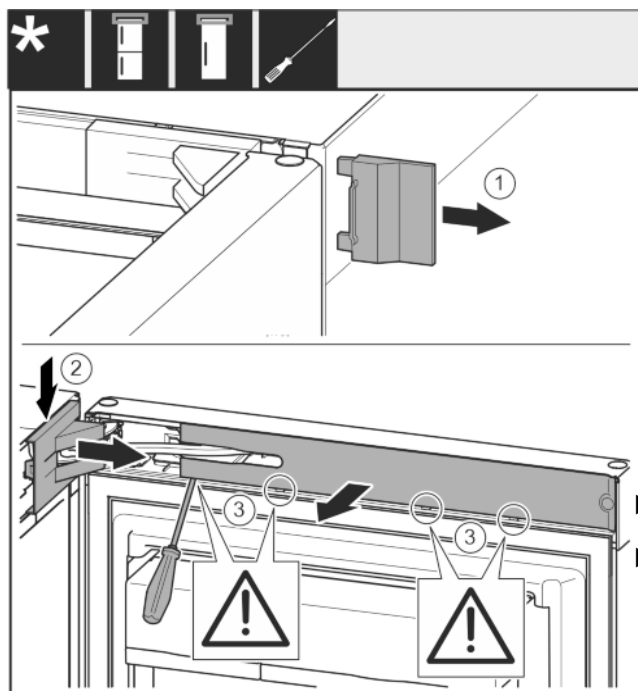

Fig. 6
- Remove the outer cover. Fig. 6 (1)
- Disengage and release the bearing bracket cover. Remove the bearing bracket cover. Fig. 6 (2)
- Unlatch the panel with a slotted screwdriver and swivel it to one side. Fig. 6 (3)